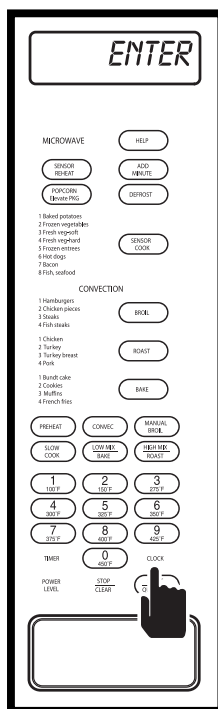

Figure 3-68.
4. To exit Demo Mode, press CLOCK again and “ENTER - TIME ” will flash on display (See Figure 3-68).